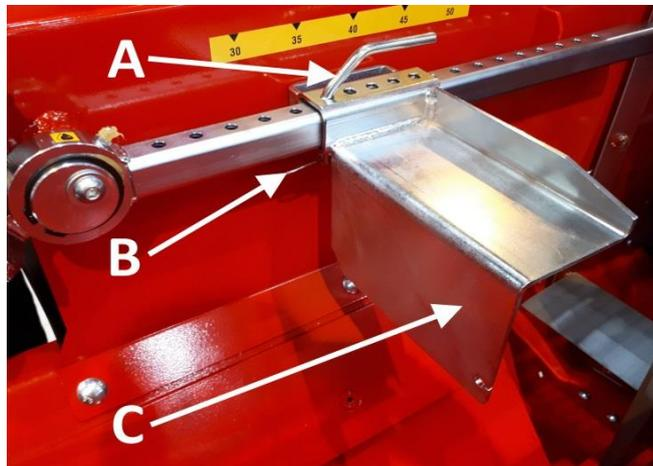

Figure 14: Measuring device position for small logs less than 25 cm in diameter.
2. When the wood limiter is in the splitting position, set it to the desired length by removing cotter pin B (Figure 14) in the limiter's locking pin and by pulling out locking pin A. Lock the limiter plate C in the desired position. Re-insert locking pin A and cotter pin B.